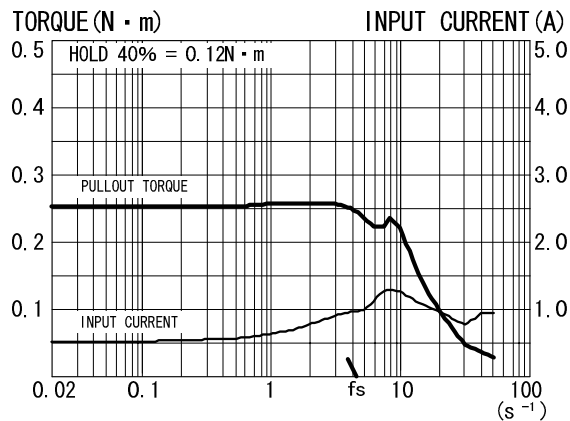

Fig. 4
| □60mm | PK564-A (B) | 0.72 | 0.75 | F | Fig. 4 |